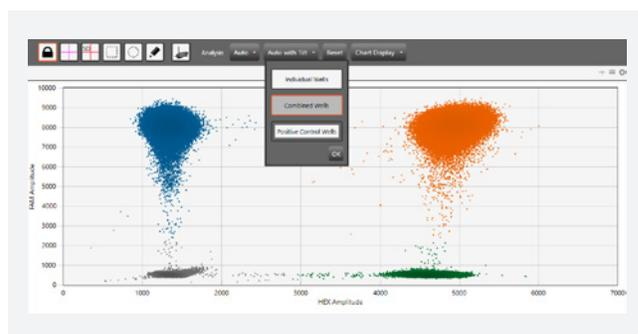

Fig. 1. Autothresholding using combined wells. On the 2D Amplitude tab, select all wells and choose **Combined Wells** from the Auto with Tilt dropdown menu.
2. Click **Auto with Tilt**, select **Combined Wells** at the bottom of the dropdown menu, then click **OK**. These steps apply the same autothreshold to all selected wells based on their combined fluorescence. See Figure 1 for details.